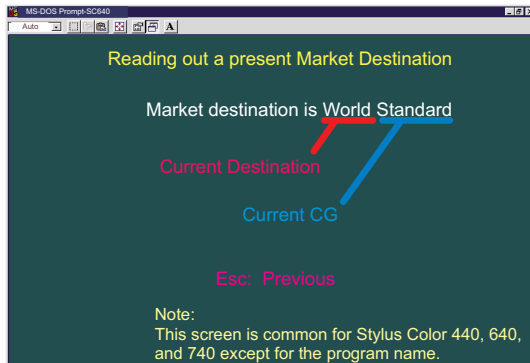

Figure 5-21. Market/Destination Confirmation Menu
2. Apply the main menu (Figure 5-21). (See Section 5.2.2.2.)
1. Apply the main menu (Figure 5-21). (See Section 5.2.2.2.)